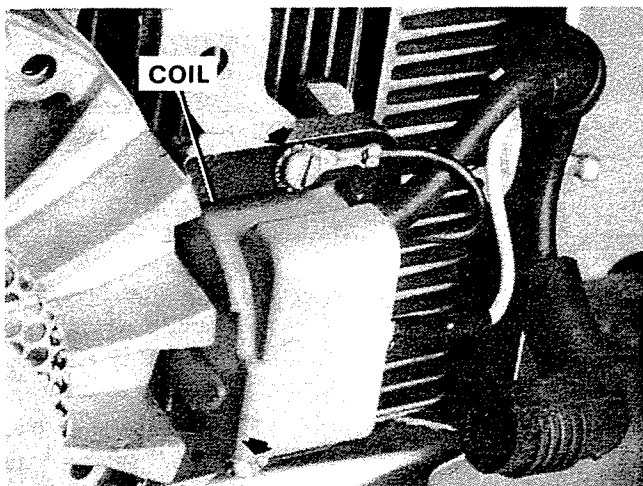

Figure 2. Removing Coil.
3. Disconnect coil lead (white) from spade terminal. Figure 2.
4. Remove coil from bracket by removing two (2) screws. Figure 2.